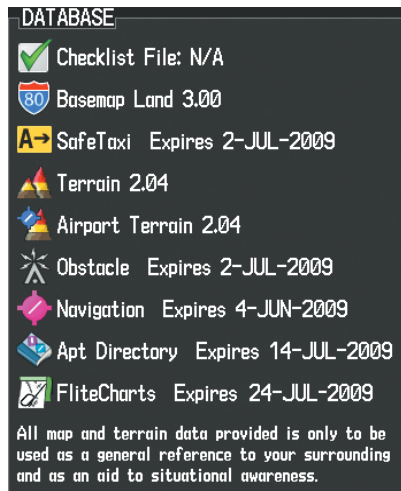

Figure B-5 Database Information on the Power-up Screen
- 4) Apply power to the system, check that the databases are initialized and displayed on the power-up screen (Figure B-5). When updating the terrain and FliteCharts databases, a ‘Verifying’ message may be seen. If this message is present, wait for the system to finish loading before proceeding to step 5.